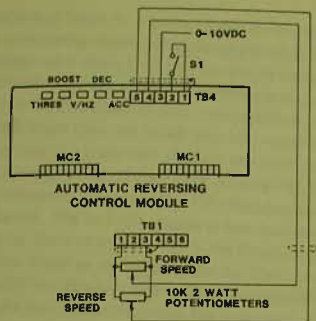

FIGURE 12
7.3.2.2 TWO PRESET SPEEDS. Connect a forward/reverse switch or contact across terminals 1 and 2 of TB4 on the control module (reference Figure 12). Connect two 10,000 ohm speed potentiometers in parallel across terminals 1 and 3 of TB1 as shown in Figure 12. Connect the wiper of the forward speed potentiometer to terminal 4 of TB4 on the control module. Remove the jumper from between terminals 4 and 5 of TB4. This jumper will not be utilized when using two preset speeds. Connect the wiper of the reverse speed potentiometer to terminal 5 of TB4 on the control module.